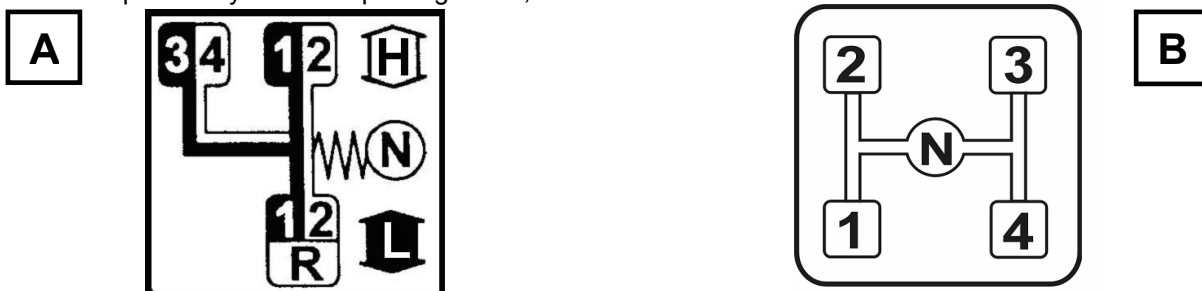

Fig. E-11. Control schemes for drive system:
- with the reduction gear & gear group lever according to the scheme **A** (fig. E-11) activate the reduction gear (I or II), and then set the lever to selected gear group (1, 2 or 3, 4 or R - reverse);
- with the gearbox lever set the selected gear according to the scheme **B** (fig. E-11);